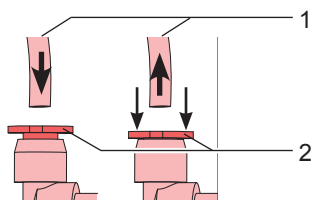

Figure 6 Push (left) and pull (right) of tubes
Pull tubes (1) at pneumatic connectors only if the releasing ring (2) pressed. (Figure 6 right).